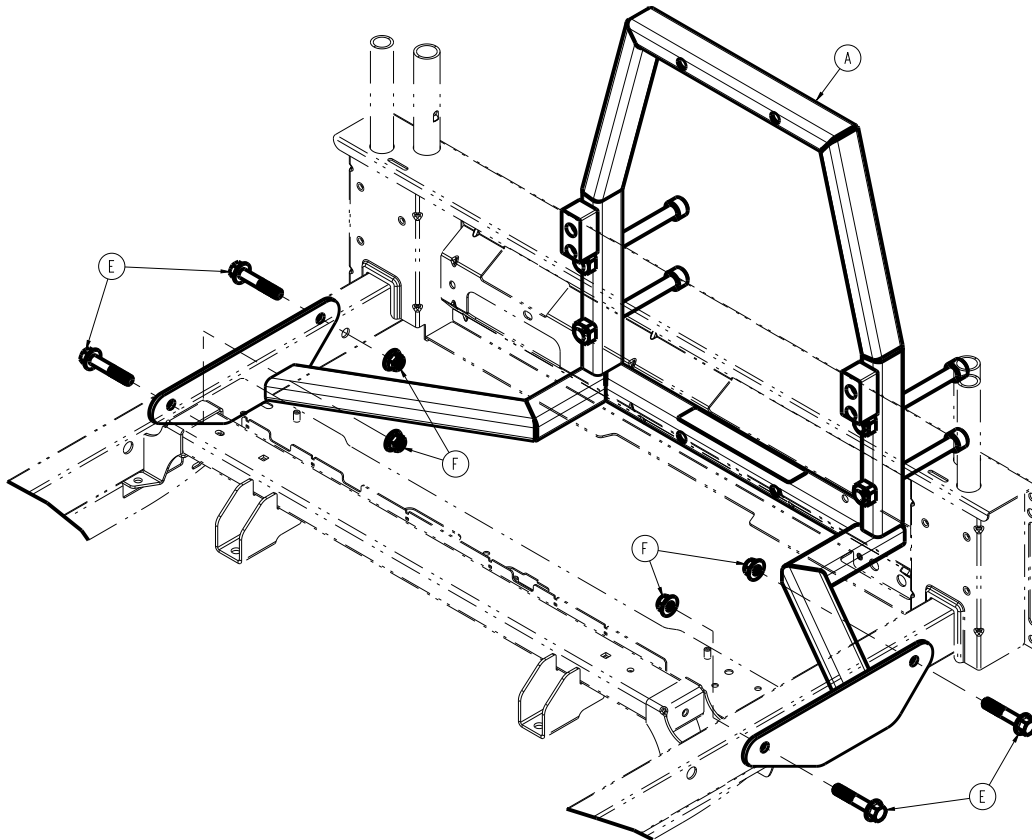

Figure 77 – Attaching the patient helper bracket
5. Using a small slotted screwdriver, remove the four litter plugs toward the head end of the product. See the hex screws (E) for the litter plug locations (Figure 77). Discard the litter plugs.
6. Hold the patient helper weldment (A), with help from another person, upright at the head end of the product.
7. Insert the four hex screws (E) through the patient helper weldment (A) and litter frame and thread on the four hex nuts (F).